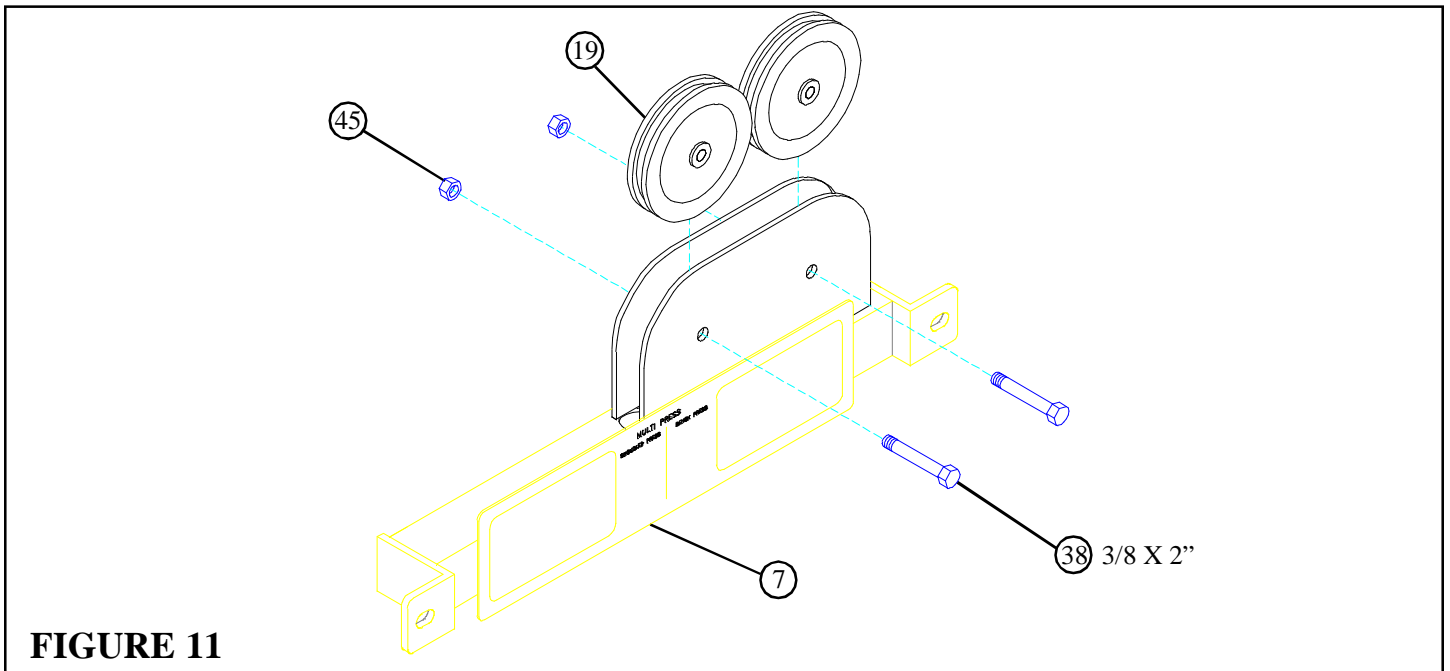

FIGURE 11
- **SECURELY** assemble two 4-1/2" PULLEYS (19) to the TOWER BRACE (7) using two 3/8 X 2" BOLTS (38), and two 3/8" LOCK NUTS (45). See FIGURE 11.